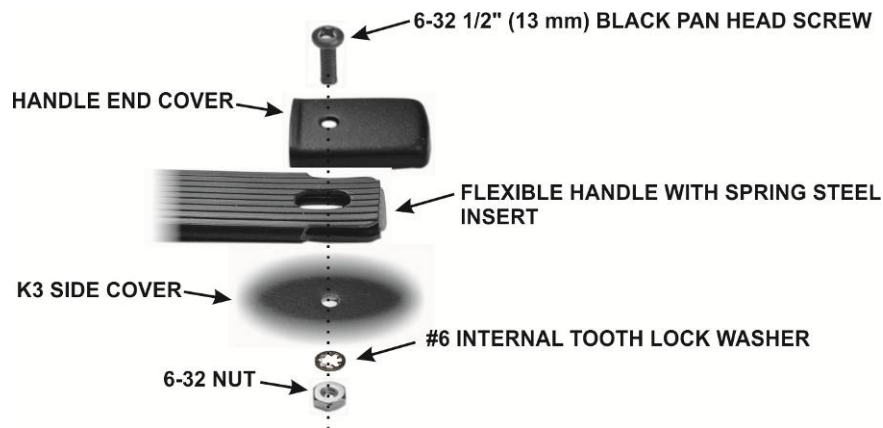

Figure 64. Installing Side Handle Mounting Hardware.
□ Turn the chassis upside down and position the front panel assembly so the pins of P30 and P35 on the bottom of the RF board just begin to engage the connectors on the lower edge of the front panel assembly (see Figure 64). Do not fully mate them yet.
Attach the handle to the left side cover using the hardware shown in Figure 64 at each end. The ribbed side of the handle faces away from the panel. Tighten the screws enough to compress the lock washers, but do not tighten the screws so much that you deform the handle end cover. The handle should move easily to allow room for your fingers between the handle and cover for carrying, then lie flat against the cover when it is not in use.